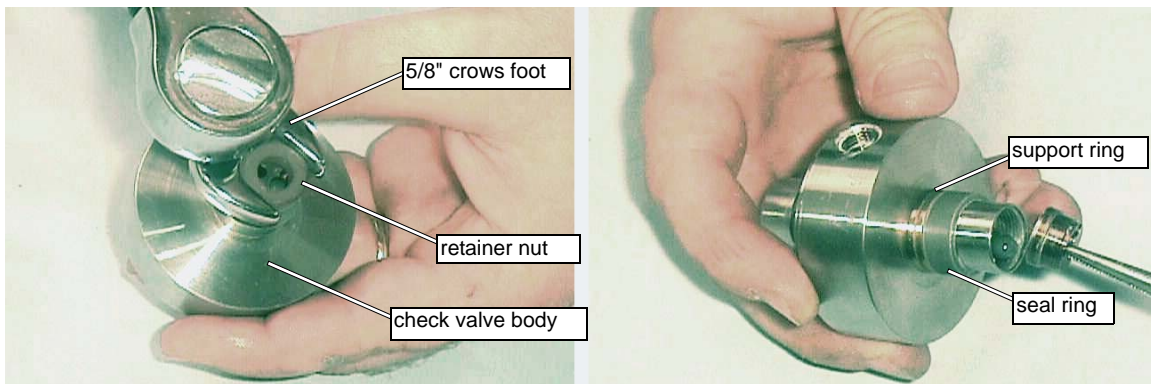

Figure 5-20: Removing the Retainer Nut from the Check Valve Body
1. Begin disassembly of a Check Valve Assembly from the inlet (Cylinder) side. Clamp the Check Valve Body into the soft-jaws of a vise and, using the 5/8" crows foot, remove the Retainer Nut (Figure 5-20).